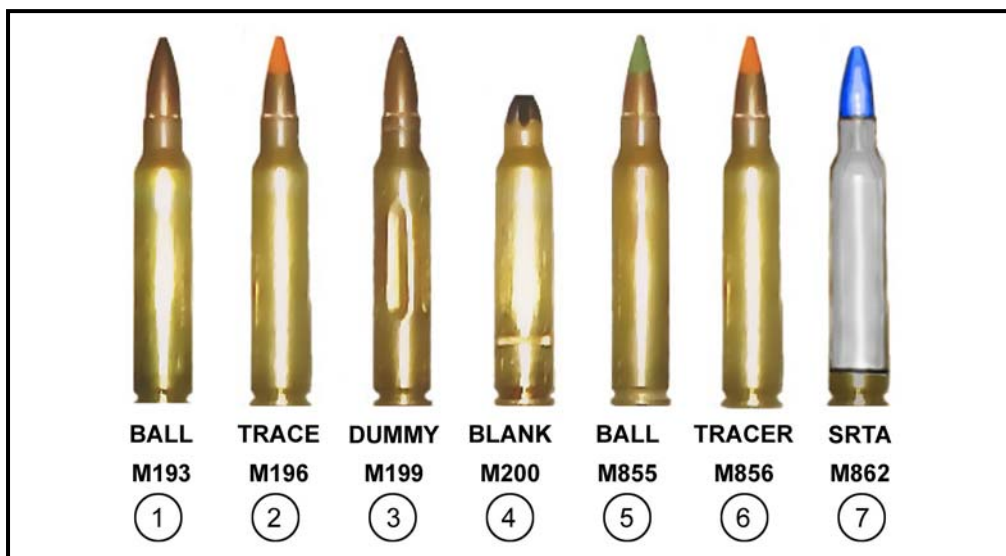
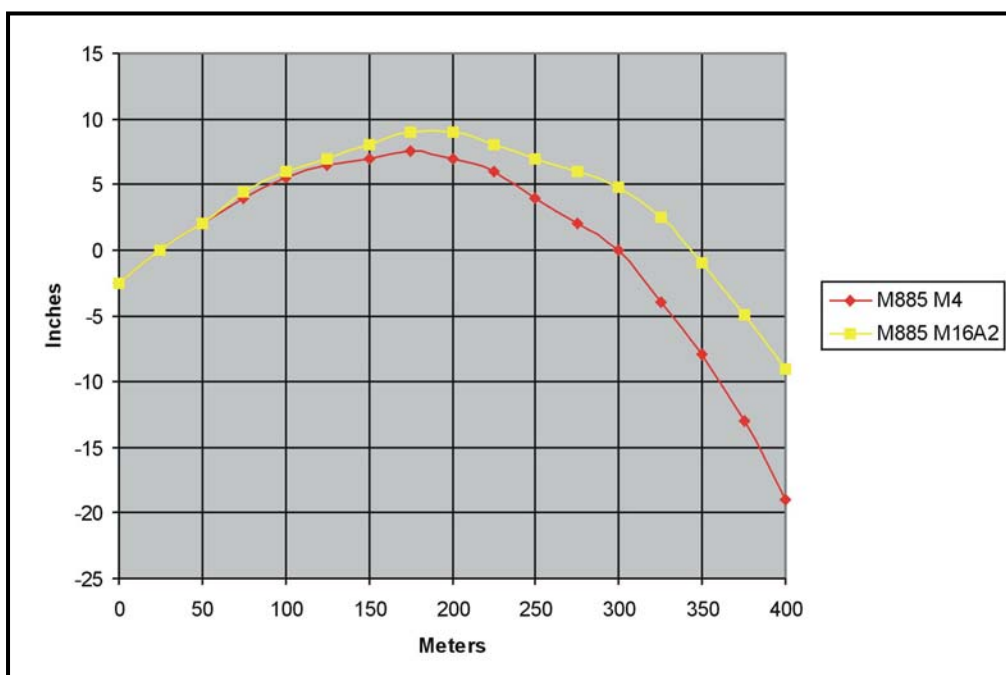

Figure 2-42. Ammunition, 5.56-mm for the M16- and M4-series weapons.
Figure 2-43. M855 drop during 25-meter zeroing (M16A2 at 8/3+1; M4 at 6/3).
This paragraph provides information on different types of standard military ammunition used in the M16-/M4-series weapons (Figure 2-42, page 2-28). Use only authorized ammunition manufactured to U.S. and NATO specifications. (Figures 2-43 through 2-47 [pages 2-28 through 2-30] show ammunition trajectory data.)
a. **Cartridge, 5.56-mm, Ball, M193.** The M193 cartridge is a center-fire cartridge with a 55-grain, gilded metal-jacketed, lead alloy core bullet. The M193 round is the standard cartridge for field use with the M16A1 rifle and has no identifying marks (1, Figure 2-42, page 2-28).
b. **Cartridge, 5.56-mm, Tracer, M196.** (Used in the M16A1 rifle) The M196 cartridge has a red or orange painted tip (2, Figure 2-42, page 2-28). Its main uses are for observation of fire, incendiary effect, and signaling. Soldiers should avoid long-term use of 100 percent tracer rounds, which could cause deposits of incendiary material, or chemical compounds that could damage the barrel. Therefore, when tracer rounds are fired, they are mixed with ball ammunition in a ratio of no greater than one-to-one with a preferred ratio of three or four ball rounds to one tracer round.
c. **Cartridge, 5.56-mm, Dummy, M199.** (Used in all rifles.) The M199 dummy cartridge is used during dry firing and other training (3, Figure 2-42, page 2-28). This cartridge can be identified by the six grooves along the sides of the case beginning about 1/2 inch from its tip. It contains no propellant or primer. The primer well is open to prevent damage to the firing pin.
d. **Cartridge, 5.56-mm, Blank, M200.** (Used in all rifles.) The M200 blank cartridge has no projectile. The case mouth is closed with a seven-petal rosette crimp and shows a violet tip (4, Figure 2-42, page 2-28).
e. **Cartridge, 5.56-mm, Ball, M855.** (Used in the M16A2/3/4 and M4-series weapons.) The M855 cartridge has a 62-grain, gilded metal-jacketed, lead alloy core bullet with a steel penetrator. The primer and case are waterproof. This round is also linked and used in the M249. It has a green tip (5, Figure 2-42, page 2-28). This ammunition should not be used in the M16A1 except under emergency conditions, and only at targets less than 90 meters in distance. (The twist of the M16A1 rifling is not sufficient to stabilize the heavier projectile of the round).
f. **Cartridge, 5.56-mm, Tracer, M856.** (Used in the M16A2/3/4 and M4-series weapons.) The M856 tracer cartridge has characteristics similar to the M196 tracer with a slightly longer tracer burnout distance. This cartridge has a 63.7-grain bullet. The M856 does not have a steel penetrator. It has a red tip (orange when linked 4 to 1 for the M249) (6, Figure 2-42, page 2-28). This ammunition should not be used in the M16A1 except under emergency conditions, and only at targets less than 90 meters in distance. (The twist of the M16A1 rifling is not sufficient to stabilize the projectile of the heavier ammunition).
g. **Cartridge, 5.56-mm Short-Range Training Ammunition (SRTA), M862.** (Used in all rifles.) The M862 SRTA (7, Figure 2-42, page 2-28) is designed exclusively for training. It can be used in lieu of service ammunition on indoor ranges and by units that have a limited range fan that does not allow the firing of service ammunition. SRTA ammunition must be used with the M2 training bolt.
(1) Although SRTA closely replicates the trajectory and characteristics of service ammunition out to 25 meters, it should not be used to set battle sight zero of weapons to fire service ammunition. The settings that are placed on the sights for SRTA could be different for service ammunition.
(2) If adequate range facilities are not available for sustainment training, SRTA can be used for any firing exercise of 25 meters or less. This includes the 25-meter scaled silhouette, 25-meter alternate qualification course, and quick-fire training. SRTA can also be used for Urban Operations training. (See Appendix A for use of SRTA in training.)